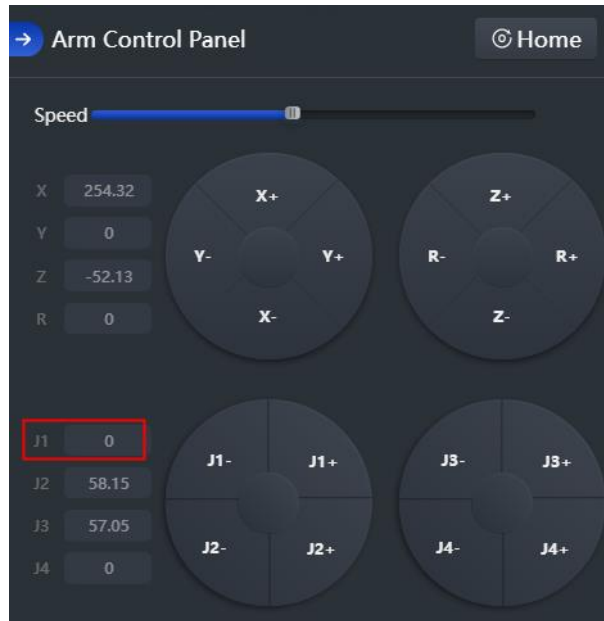

Figure 5.118 J1 coordinates
**Step 8** Click **Adjusted, confirm Calibration** to start calibrating the base encoder. You can check the J1-coordinate on the **Arm Control Panel** page, as shown in Figure 5.118.